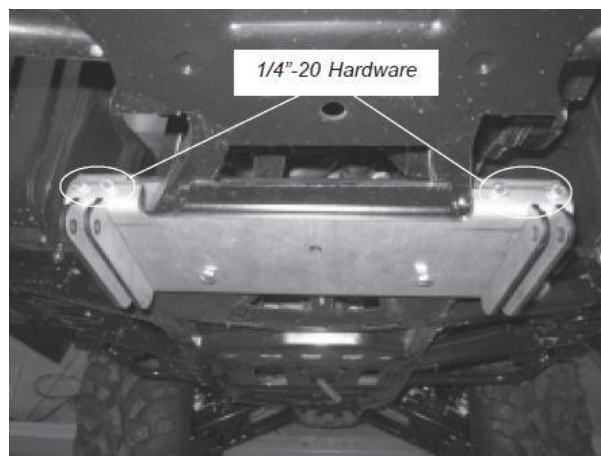

Figure 6
7. Assemble the clamp bracket (A2) to the plow mounting bracket (A1) using four 1/4"-20x1" hex head bolts (B1), four 1/4" flat washers (B2) and four 1/4"-20 lock nuts (B3) (Figure 6).